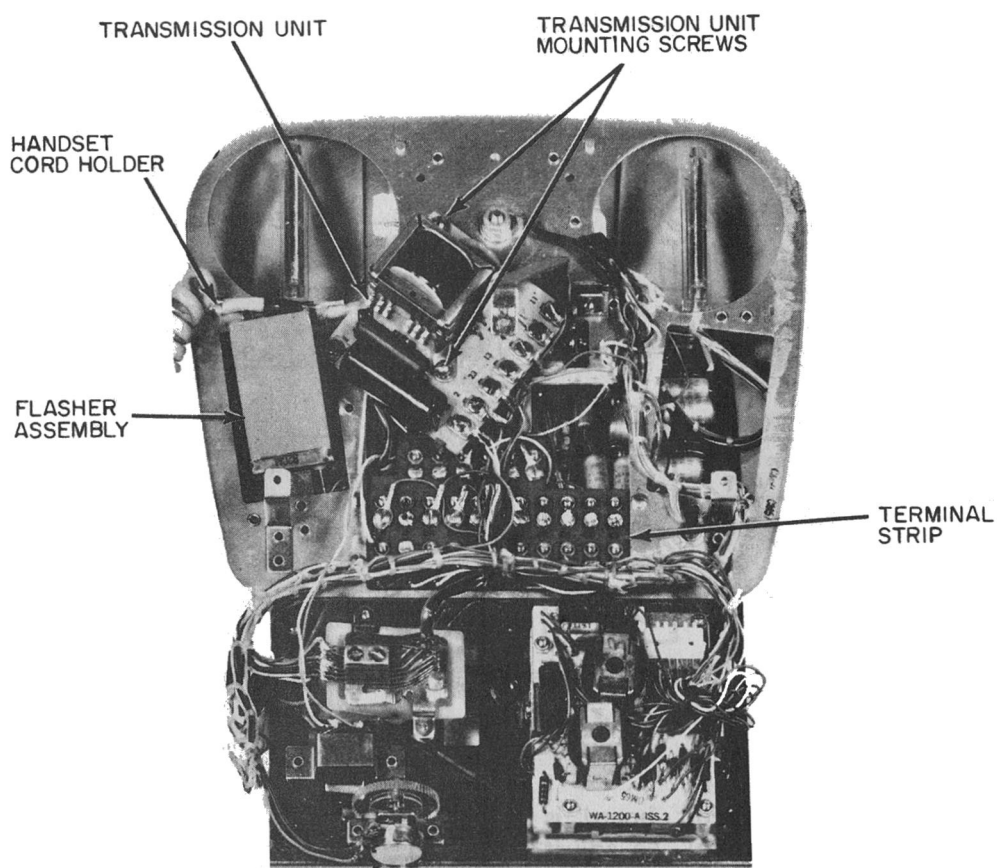

Figure 6. Top View of Main Unit Assembly with Upper Housing Removed and Backing Plate Turned Over.
5.01 Because of the twine laced wiring of the 880B, field maintenance will be limited to replacement of the housings, handset, handset cord, and line cord. Refer to Figures 6 and 7 for internal views of the speakerphone.